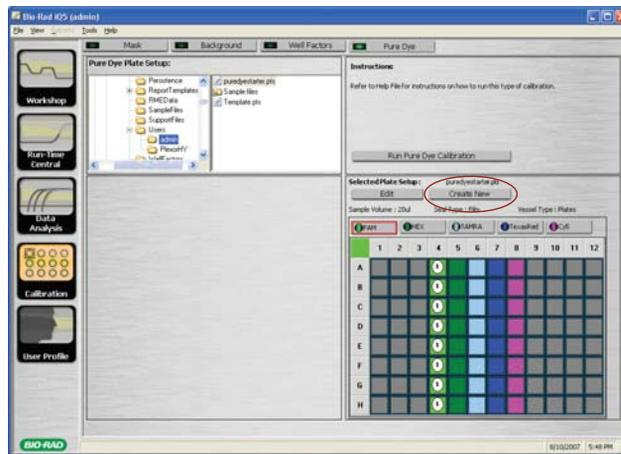

Figure 4. The iQ™5 Calibration Module, Pure Dye tab.
- a. Open the iQ™5 optical system software. Select the Calibration Module, then the Pure Dye tab. Select “Create New” in the Plate Setup window (Figure 4, lower right panel).